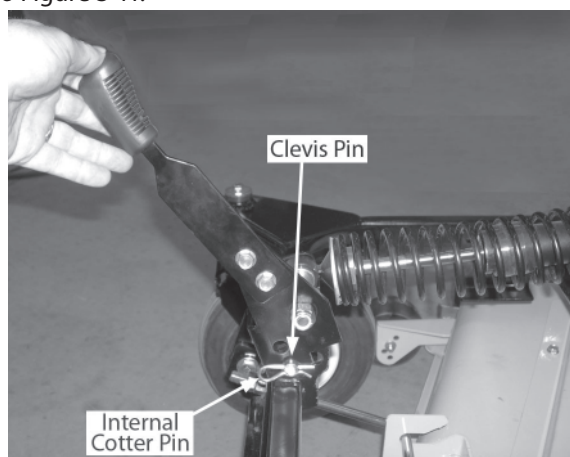

Figure 3-11
- Install the shock absorber pivot handle bracket on the outside of the deck frame mounting brackets, then temporarily insert the long clevis pin through the forward-most holes of the pivot handle and mounting brackets. Secure with the internal cotter pin removed earlier. Refer to Figure 3-11.
- Install the shock absorber pivot handle on the outside of the mounting brackets on the deck frame. Align the forward holes of the pivot handle and mounting brackets, insert the long clevis pin and secure with the internal cotter pin removed when removing the deck frame. See Figure 3-11.